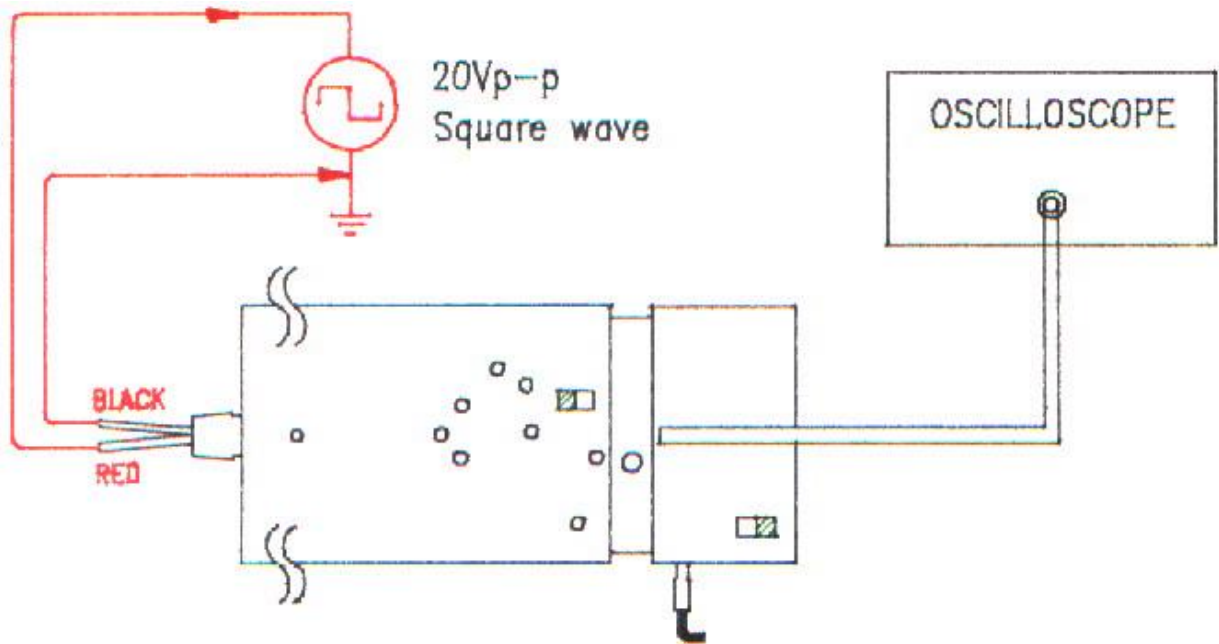

Fig. 8
- a. Referring to Fig. 8, connect output BNC to the oscilloscope has good grounding.